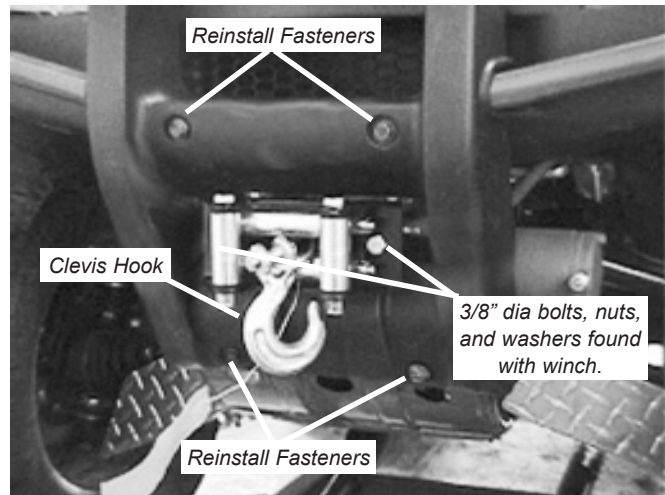

Figure 19 Completed Winch Installation on Rubicon
14. If no more interferences exist between the upper mounting bracket (A1) and front fascia, reinstall the fascia with the fasteners removed in step 1 as shown in figure 19.
15. Attach either the cast-iron hawse or roller fairlead (depending on your winch kit) to the upper mounting bracket (A1) using M10 x 30 bolts (C7) included, and nuts and washers provided with the winch as shown in figure 19. Hawse users will need to remove the hawse from the fairlead plate before mounting on the upper mounting bracket. Tighten all nuts and bolts securely.
16. Switch the winch clutch to freespool. Manually feed the winch cable through the hawse or roller fairlead. Attach the clevis hook, found with the winch, to the end cable loop as shown in figure 19. Reengage the winch clutch. If you notice that the winch cable can rub against the front plastic fascia during winch operation, jump back to step 13 and remove more plastic material.
Winch and winch mount installation is now complete and should look like figure 19. Proceed to section V, entitled "Maintenance/Care".